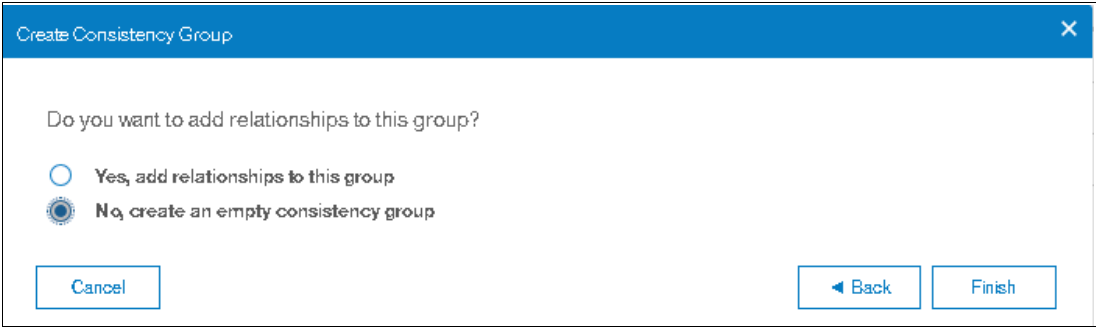

Figure 6-30 Consistency group system selection
2. The auxiliary volumes are located on the same system, so select the appropriate options (Figure 6-30) and create an empty consistency group.